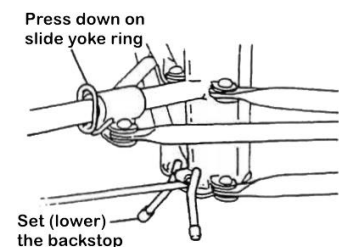

Figure 1
2. Press down on the slide yoke ring. Hold the ring down while you swing the two forward legs out until the yoke ring snaps or black place into the locking hole on the bottom of the slide tube. (See Figure 1).